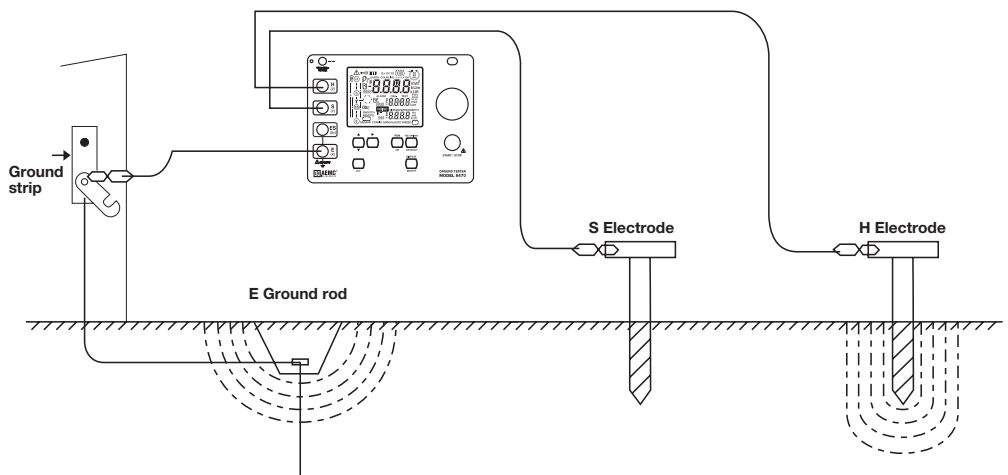

Figure 22
**E**xcessive noise may interfere with testing because of the long leads used to perform a Fall-of-Potential test. A voltmeter can be utilized to identify this problem. Connect the “E”, “S” and “H” cables to the auxiliary electrodes as for a standard ground resistance test. Use the voltmeter to test the voltage across terminals “E” and “H”. (See Figure 22)